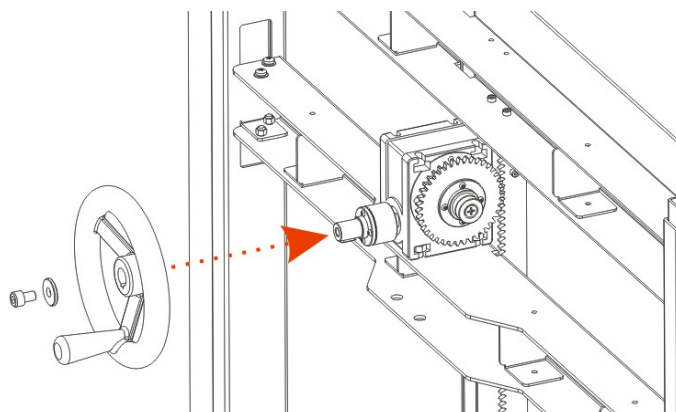

Fig. 4-6
4. Attach the crank handle (6) to the lift mechanism of the calibration frame, and use
the screw (A) and screw cushion (7) to fasten it (See Fig. 4-6).